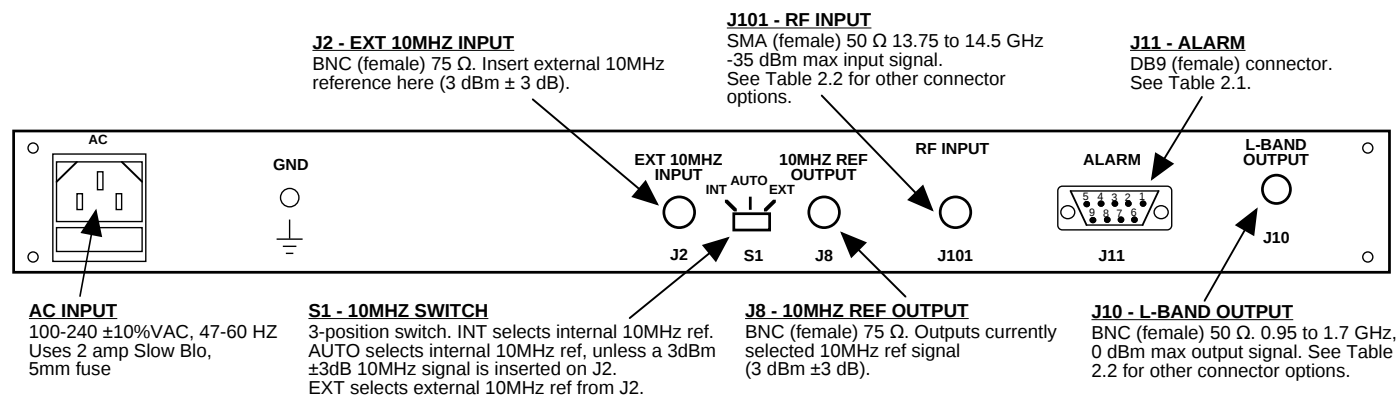

FIGURE 2.1 2116-184 Rear Panel I/O's
Figure 2.1 shows the input and output connectors on the rear panel.
1. Connect a -55 dBm to -35 dBm signal to RF INPUT, J101 (Figure 2.1).
5. Select either INT (for internal 10MHz ref), AUTO (for internal 10MHz ref UNLESS an external 10MHz, 3 dBm signal is connected to J2), or EXT (for external 10MHz, 3 dBm ref that is inserted at J2) on rear panel switch S1 (Figure 2.1).
7. Check that a 10MHz, 3 dBm $\pm$ 3 dB signal is present at the 10MHz REF OUTPUT (J8) (Figure 2.1).